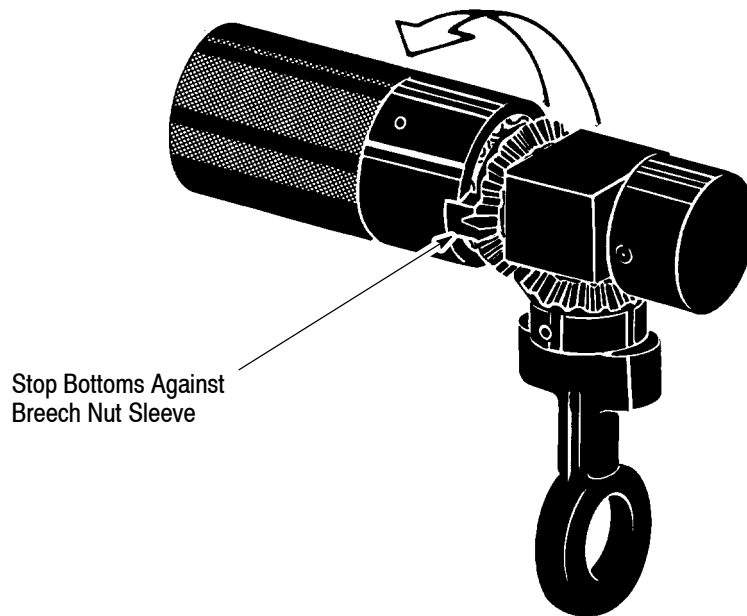

Figure 37
2. Hold the geared portion of geared breech cap assembly and turn the breech nut sleeve counterclockwise until the stop bottoms against breech nut sleeve. Refer to Figure 37.